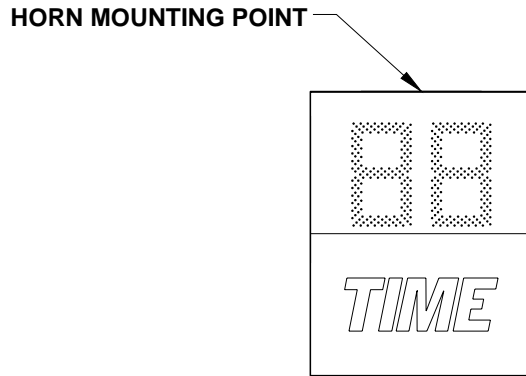

Figure 7 Horn Mounting Location
7. Fasten the horn assembly to the top of the cabinet using the provided mounting bolt. Figure 7 shows the horn assembly mounting point.